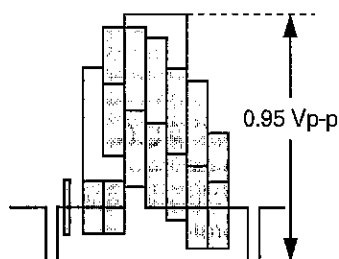

Figure 5-6.
- (See Note below ①.)
5. Make sure that the output signal amplitude is 1.0Vp-p as shown in Figure 5-6.